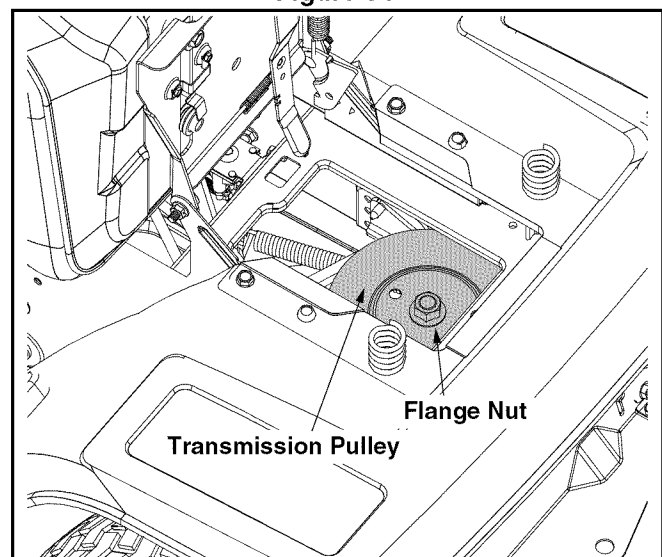

Figure 35
- Locate the transmission pulley through the battery tray opening. See Figure 35.